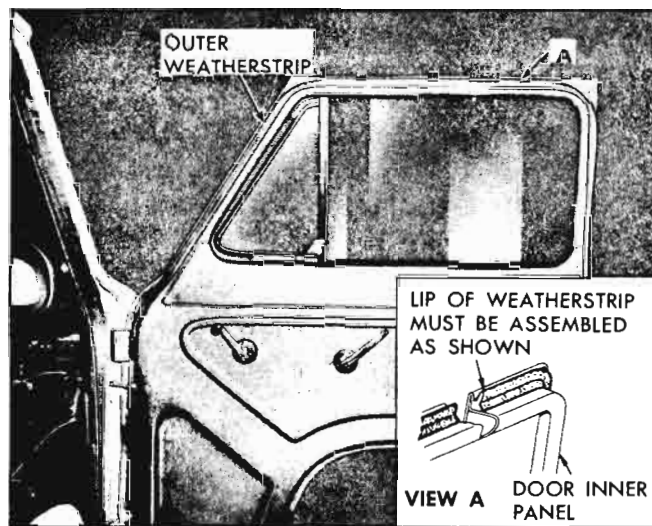

Fig. 10-52a—Door Outer Weatherstrip Installation
3. Apply adhesive to top of door area as shown in Figure 10-52a.
4. Install new weatherstrip starting at the belt line in front of door as shown in Figure 10-52a.